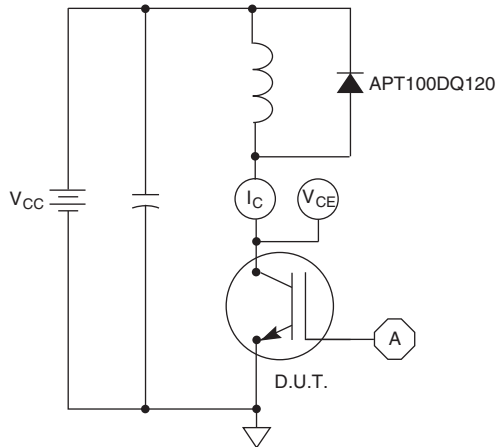

Figure 21, Inductive Switching Test Circuit
① Repetitive Rating: Pulse width limited by maximum junction temperature.
② For Combi devices, I_{ces} includes both IGBT and FRED leakages
③ See MIL-STD-750 Method 3471.
④ E_{on1} is the clamped inductive turn-on energy of the IGBT only, without the effect of a commutating diode reverse recovery current adding to the IGBT turn-on loss. Tested in inductive switching test circuit shown in figure 21, but with a Silicon Carbide diode.
⑤ E_{on2} is the clamped inductive turn-on energy that includes a commutating diode reverse recovery current in the IGBT turn-on switching loss. (See Figures 21, 22.)
⑥ E_{off} is the clamped inductive turn-off energy measured in accordance with JEDEC standard JESD24-1. (See Figures 21, 23.)
⑦ R_G is external gate resistance, not including $R_{G(int)}$ nor gate driver impedance. (MIC4452)
⑧ Continuous Current limited by package lead temperature.